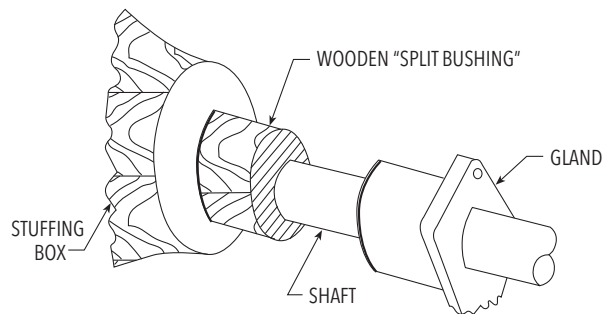

Figure 14
4. Install the packing rings and lantern ring in the following sequence to pack the packed box. Install two rings of packing, then the lantern ring, followed by the final three rings of packing. Install each ring separately and firmly seat. The use of a wooden split bushing is recommended to accomplish this. See Figure 14. Use gland to jack the bushing and ring into the box. Stagger joints in each ring 90°. Make sure the flush tap in the packed box lines up with the center of the lantern ring. Any extra rings are spares.